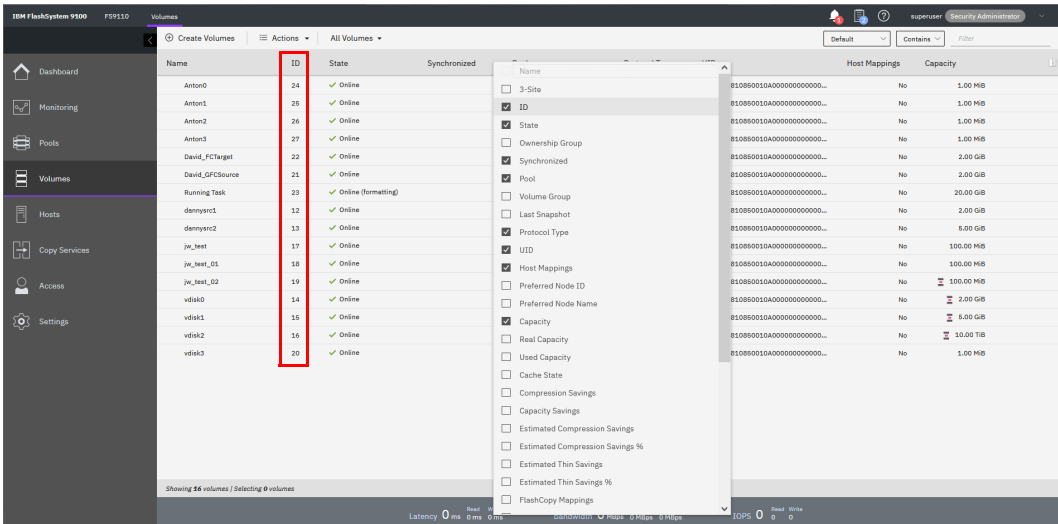

Figure 4-27 Table with an added ID column
2. Select the column that you want to add or remove from this table. In our example, we added the volume ID column and sorted the content by ID, as shown on the left in Figure 4-27.